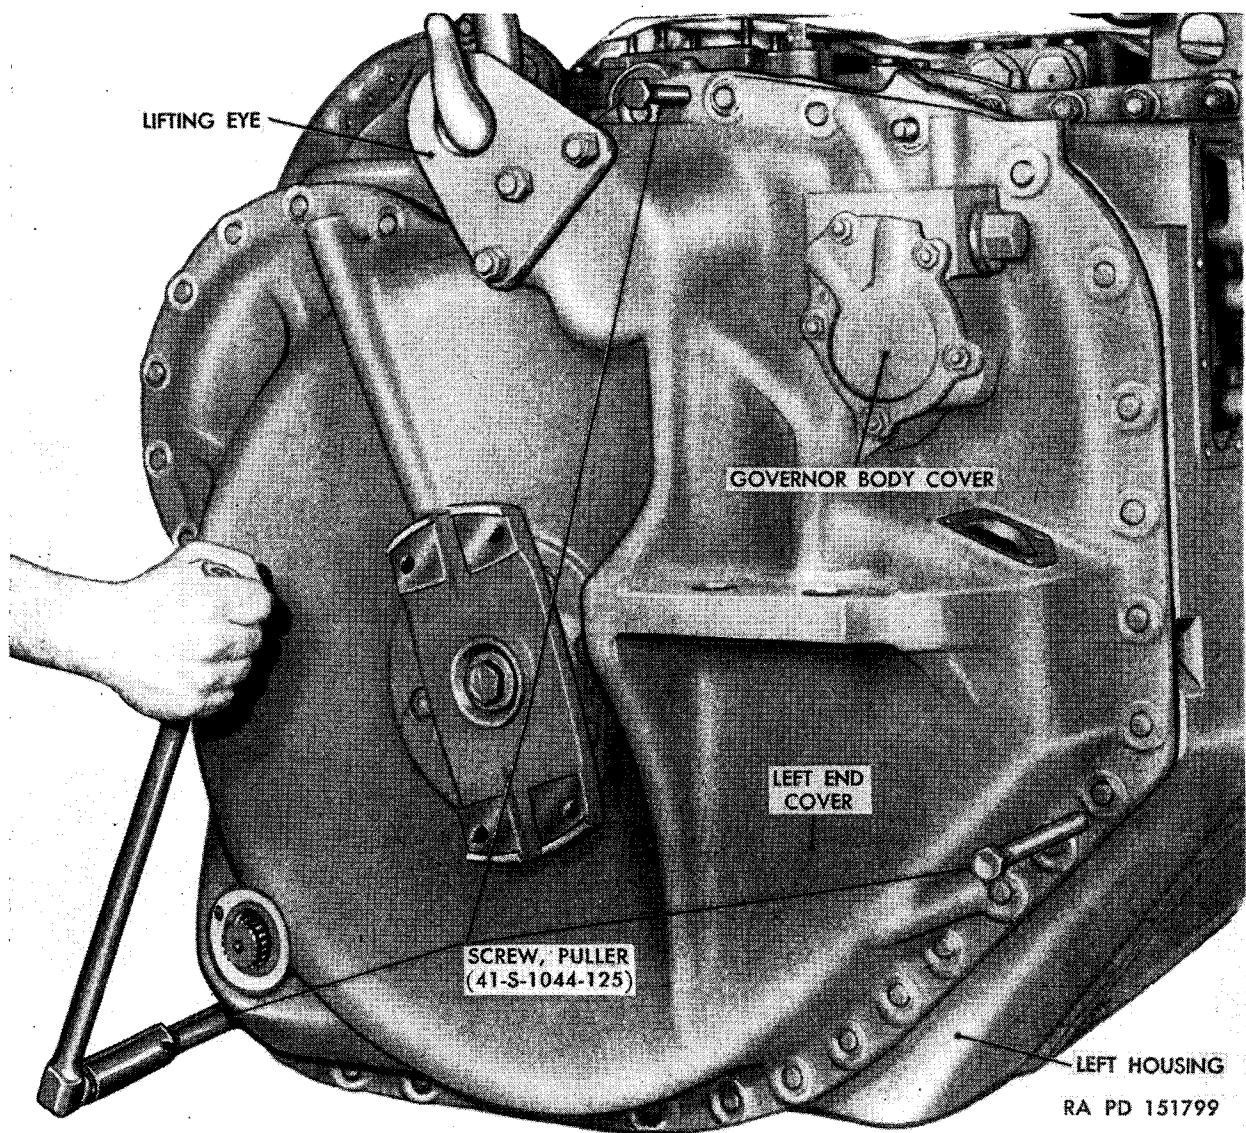

Figure 60. Separating left end cover from end plate.
- (3) Remove the 38 jam nuts, nuts, and washers from the end cover, using a $\frac{3}{4}$ -inch wrench. Remove the snap ring from the brake-apply shaft. Remove the brake-apply arm from the shaft.
- (4) Attach the hoist to the end cover lifting eye. Separate the left end cover from the left end plate with the aid of three puller screws (41-S-1044-125) (fig. 60).